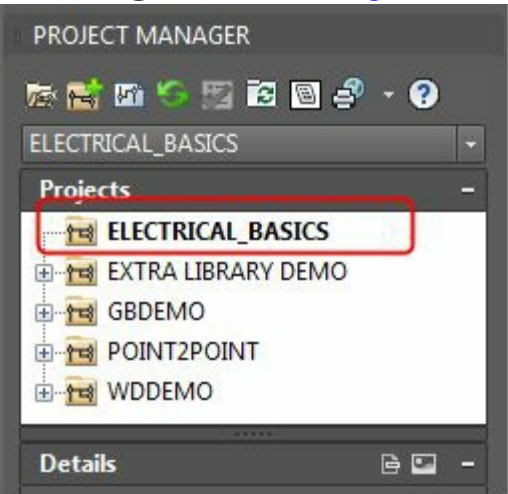

Figure-9. Project name added in Project list
- As you click on the **OK** button, the project name is added in the Project list in the **Project Manager**; refer to Figure-9.